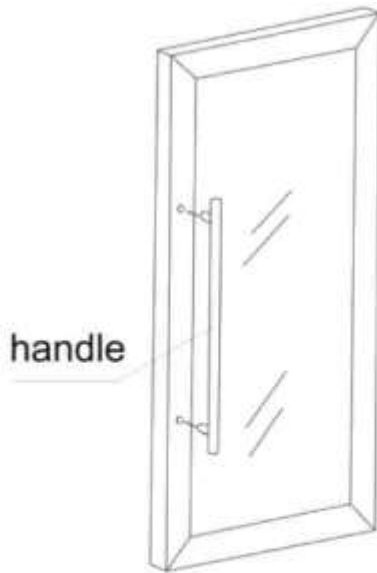

Figure 4
1. Put the handle on the door. (See figure 4)